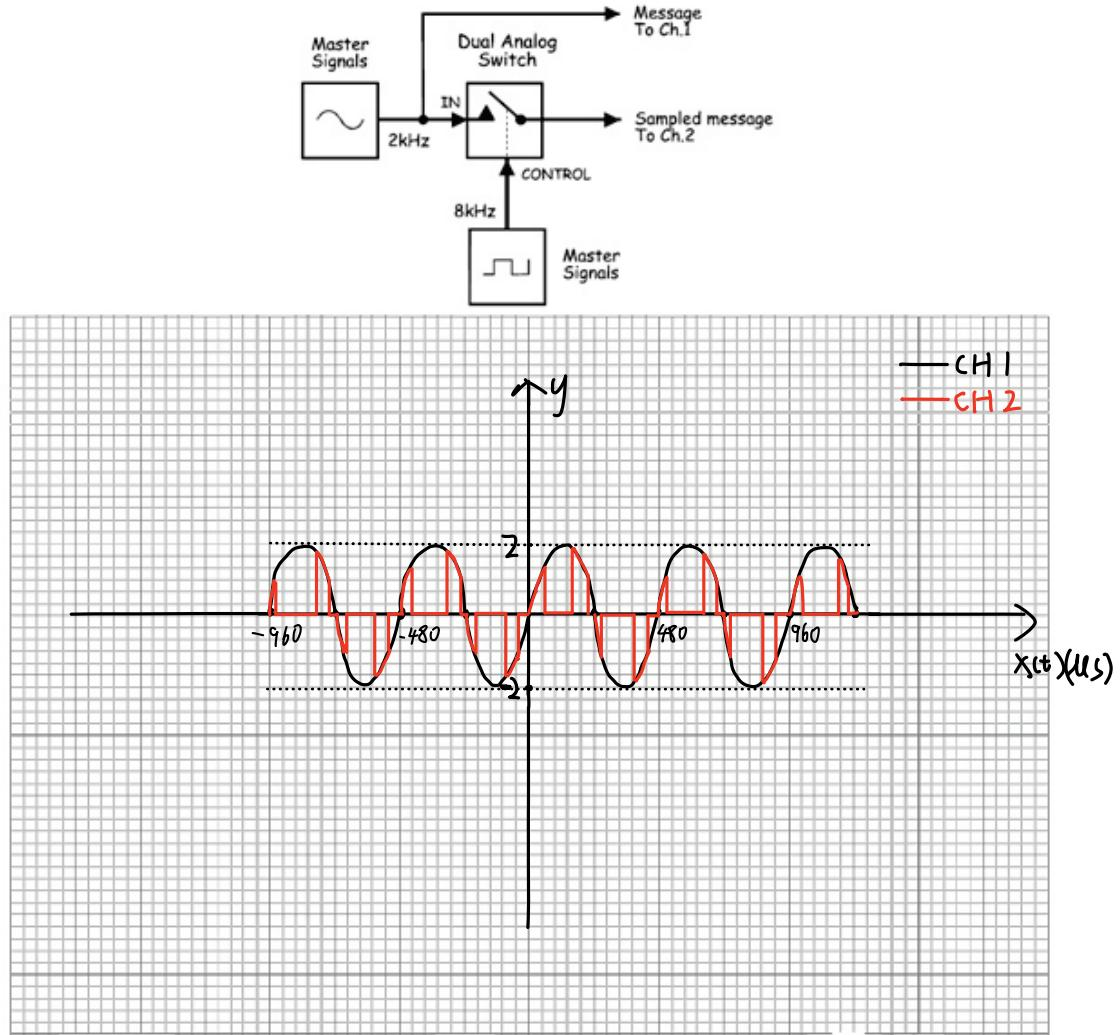

Figure 9: Natural sampling system.
- Locate the Dual Analogue Switch module and connect the setup shown in Figure 9 using one of the two inputs. It uses an electronically controlled switch to connect the message signal (the 2 kHz SINE from the Master Signals module) to the output. The switch is controlled (opened and closed) by the 8 kHz digital output of the Master Signals module.